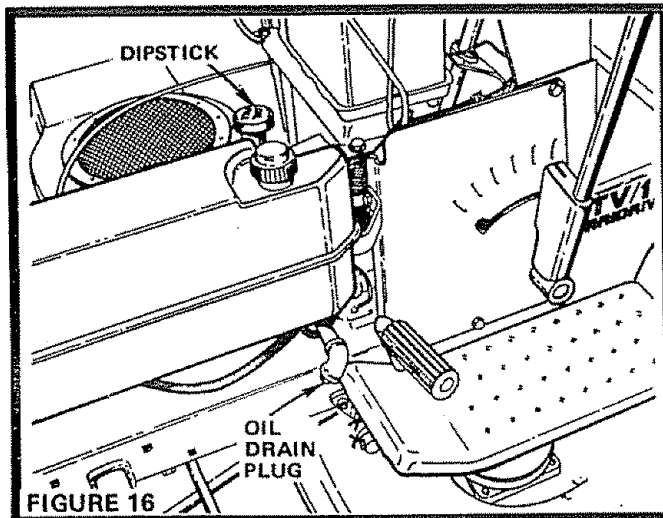

FIGURE 16
- Drain Oil with Engine warm. Unscrew Oil Drain Plug (Fig. 16) and remove Dipstick. Catch Oil in a suitable container. Replace Plug.